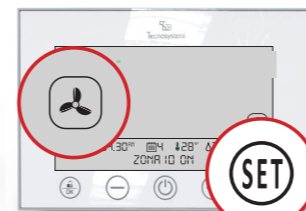

Fig.13
5.5 Ventilation . With the chrono master unlocked, enter setting mode, and use the key to choose the symbol and confirm with the key. This setting provides for 100% opening of all the dampers in the system to ensure that the ducted machine dehumidifies in all the zones in the system (Fig. 13). If you do not intend to use this feature in one or more zones of the system, you can operate as follows: